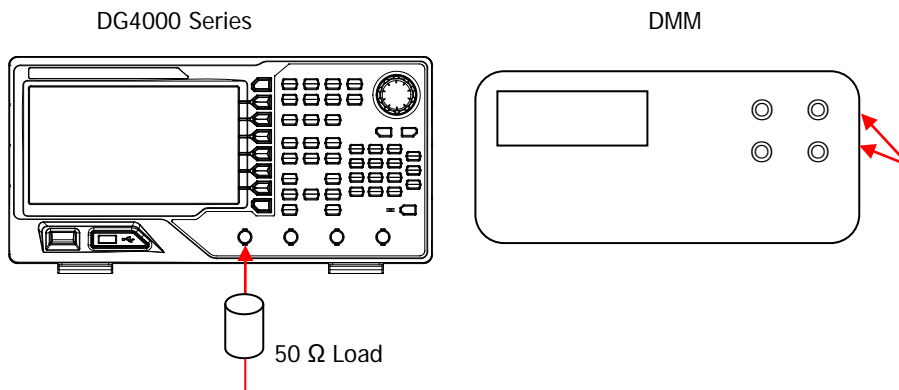

Figure 2-2 Connect DG4000 and the Digital Multimeter via the 50 $\Omega$  Load
1. Make sure that DG4000 has been warmed up for 30 minutes. Connect the 50 $\Omega$  load to the channel output terminal (take CH1 as an example; the test method is also applicable to CH2) of DG4000; connect the 50 $\Omega$  load and the voltage input terminals of the digital multimeter using the BNC - dual banana cable as shown in Figure 2-2.
1. Make sure that DG4000 has been warmed up for 30 minutes. Connect the 50 $\Omega$  load to the channel output terminal (take CH1 as an example; the test method is also applicable to CH2) of DG4000; connect the 50 $\Omega$  load and the voltage input terminals of the digital multimeter using the BNC - dual banana cable as shown in Figure 2-2. Press **Preset** at the front panel of DG4000 to restore the instrument to its default setting.